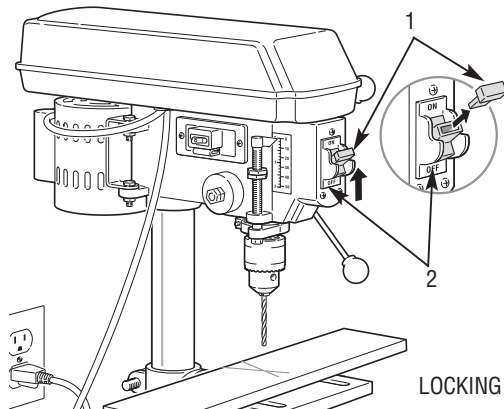

FIGURE 11.
1. To LOCK the "ON/OFF" switch, grasp the switch toggle (1) and remove it from the "ON/OFF" switch (2). See Figure 11.